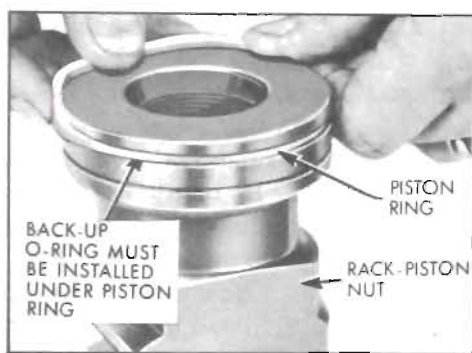

Figure 8-55—Installing Rack-Piston Ring on Rack-Piston Nut
2. Install new piston ring back-up "O" ring in groove on rack-piston nut. Place a new piston ring over the back-up "O" ring. See Figure 8-55.